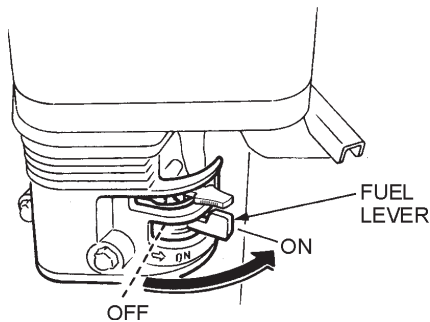

Figure 9. Fuel Valve Lever
1. Place the **fuel valve lever** (Figure 9) in the "ON" position.
3. Place the **fuel valve lever** (Figure 9) in the "**OFF**" position.